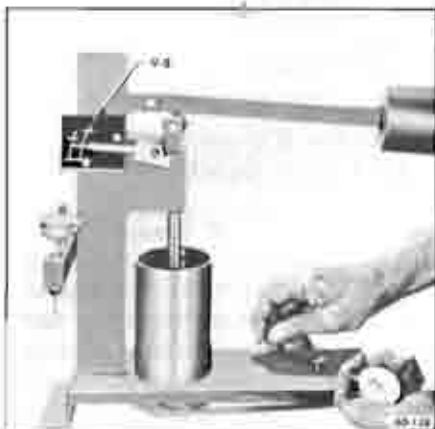

Figure 60-138—Checking Leakdown Rate
4. Lower the ram to rest in the lifter push rod seat, then lower the weight arm to rest on the roller or ram as shown in Figure 60-138.
6. Raise weight arm to allow the lifter plunger to come up to its retainer, then lower the arm to rest on the ram roller. As the pointer starts moving upward start rotating the fluid cup by turning the handle one revolution every two seconds. See Figure 60-138.